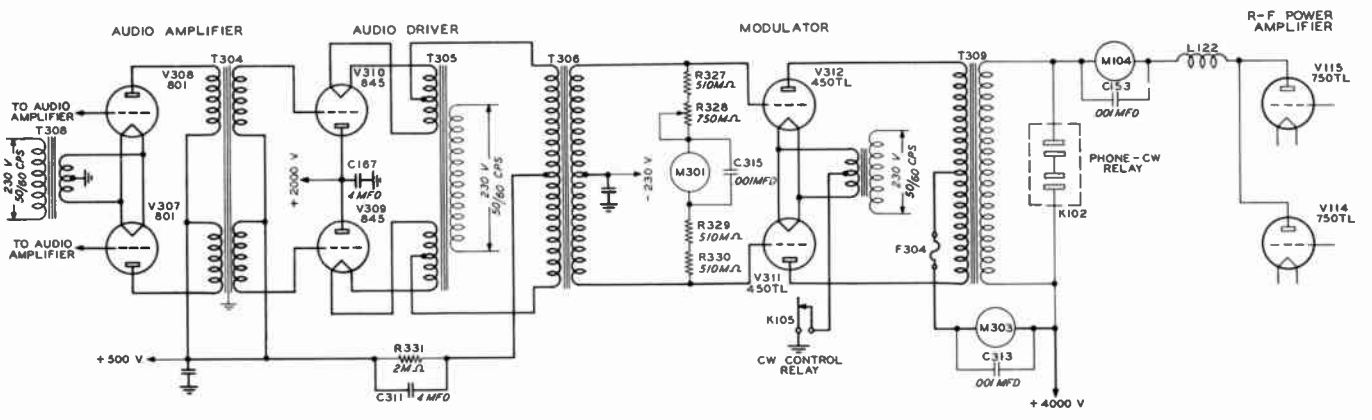

Figure 13 Audio Driver and Modulator Circuits
2.9.3. Volume Limiter and 2nd Audio Amplifier. Refer to Fig. 13. The volume limiter that is incorporated in this equipment has been designed to control the audio signal level and to give uniform speech amplifier output with a relatively wide variation of audio input. When the limiter control is properly adjusted, increasing the input to the preamplifier as much as 25 db will cause a rise in the speech amplifier output which will not exceed 3 db. The limiter circuit utilizes the principle of the familiar Wheatstone resistance bridge.